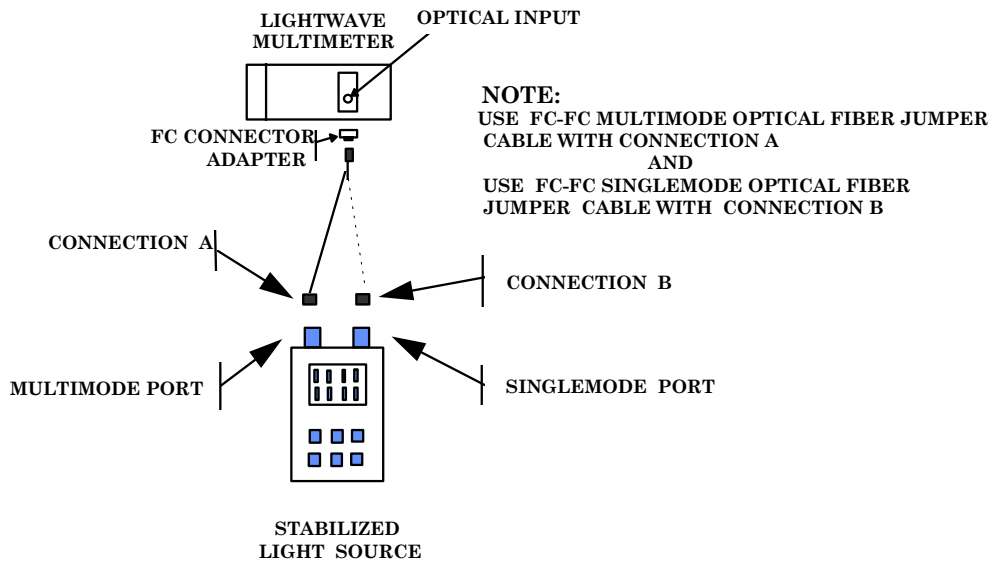
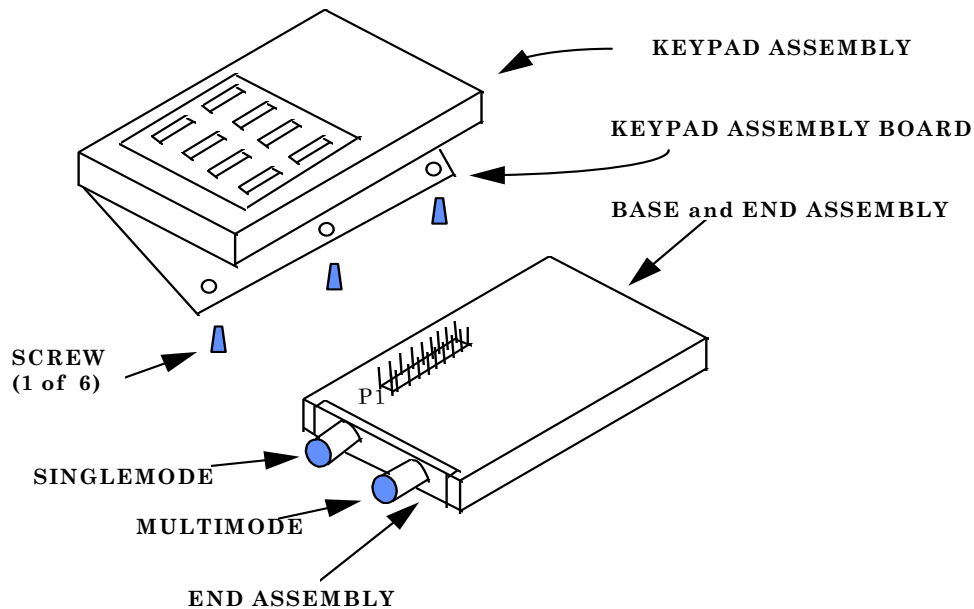
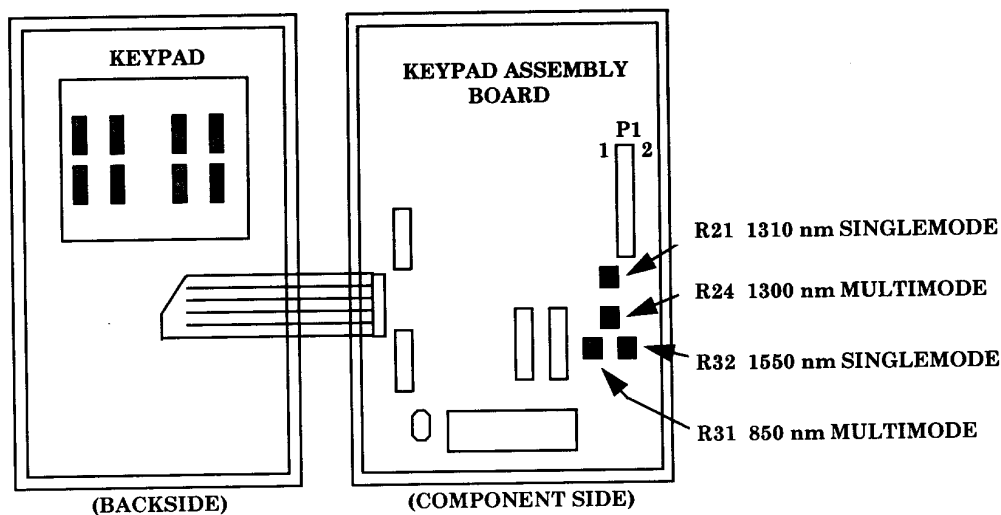

Figure 4. SLS test setup.
Figure 5. SLS keypad assembly, base and end assembly separation.
Figure 6. Keypad and keypad assembly board – adjustment locations.
(1) Remove SLS from rubberized case and record actual output wavelengths as indicated by manufacturer label located on back of case.
(2) Connect SLS to LIGHTWAVE MULTIMETER as shown in figure 4, CONNECTION A.
- (4) Set lightwave multimeter to measure dBm at actual output wavelength recorded in paragraph **9a(1)** for 850 nm.
- (5) Press **MULTIMODE 850/1300** pushbutton. **MULTIMODE 850 nm** annunciator will illuminate.
- (6) Lightwave multimeter will indicate between -22.50 and -17.50 dBm; if not, perform **b(1)** through (11), and (19) through (24) below.
- (7) Set lightwave multimeter to measure dBm at actual output wavelength recorded in paragraph **9a(1)** for 1300 nm.
- (8) Press **MULTIMODE 850/1300** pushbutton. **MULTIMODE 1300 nm** annunciator will illuminate.
- (9) Lightwave multimeter will indicate between -22.50 and -17.50 dBm; if not, perform **b(1)** through (9), (12), (13), and (19) through (24) below.
- (10) Press **MULTIMODE 850/1300** pushbutton (all annunciators except **SUPPLY NiCd** will extinguish).
- (11) Connect equipment as shown in figure 4 CONNECTION B.
- (12) Set lightwave multimeter to measure dBm at actual output wavelength recorded in paragraph **9a(1)** for 1310 nm.
- (13) Press **SINGLEMODE 1310/1550** pushbutton. **SINGLEMODE 1310 nm** annunciator will illuminate.
- (14) Lightwave multimeter will indicate between -28.50 and -23.50 dBm; if not, perform steps **b(1)** through (8), (14), (15), (16), and (19) through (24) below.
- (15) Set lightwave multimeter to measure dBm at actual output wavelength recorded in paragraph **9a(1)** for 1550 nm.
(16) Press **SINGLEMODE 1310/1550** pushbutton. **SINGLEMODE 1550 nm** annunciator will illuminate.
(17) Lightwave multimeter will indicate between -28.50 and -23.50 dBm; if not, perform **b(1)** through (7), (14), (9), and (17) through (24) below.
- (1) Ensure SLS power is **OFF**.
- (2) Remove six screws from back of SLS case.
- (3) Turn SLS face up.
- (4) Carefully separate **KEYPAD ASSEMBLY** from **BASE and END ASSEMBLY** (fig. 5).
- (5) Place **KEYPAD ASSEMBLY** face down and remove six screws from back of **KEYPAD ASSEMBLY BOARD** (fig. 5).
(6) Carefully reconnect **KEYPAD ASSEMBLY BOARD** to **BASE** and **END ASSEMBLY** (fig. 5). Ensure P1 pins are straight before connecting **KEYPAD ASSEMBLY BOARD** (fig. 5).
(7) Carefully lift keypad from **KEYPAD ASSEMBLY BOARD** (fig. 5) to gain access to adjustments.
(8) Ensure **SLS** is connected to **LIGHTWAVE MULTIMETER** as shown in figure 4 **CONNECTION A**
(9) Press **ON/OFF** pushbutton to **ON**.
(10) Press **MULTIMODE 850 nm/1300 nm** pushbutton for output of 850 nm.
(11) Adjust **R31 850 nm MULTIMODE** for -20.00 dBm indication on lightwave multimeter (fig. 6) (R).
(12) Press **MULTIMODE 850 nm/1300 nm** pushbutton as necessary for 1300 nm output.
(13) Adjust **R24 1300 nm MULTIMODE** (fig. 6) for -20.00 dBm indication on lightwave multimeter (R).
(14) Ensure **SLS** is connected to **LIGHTWAVE MULTIMETER** as shown in figure 4, **CONNECTION B**.